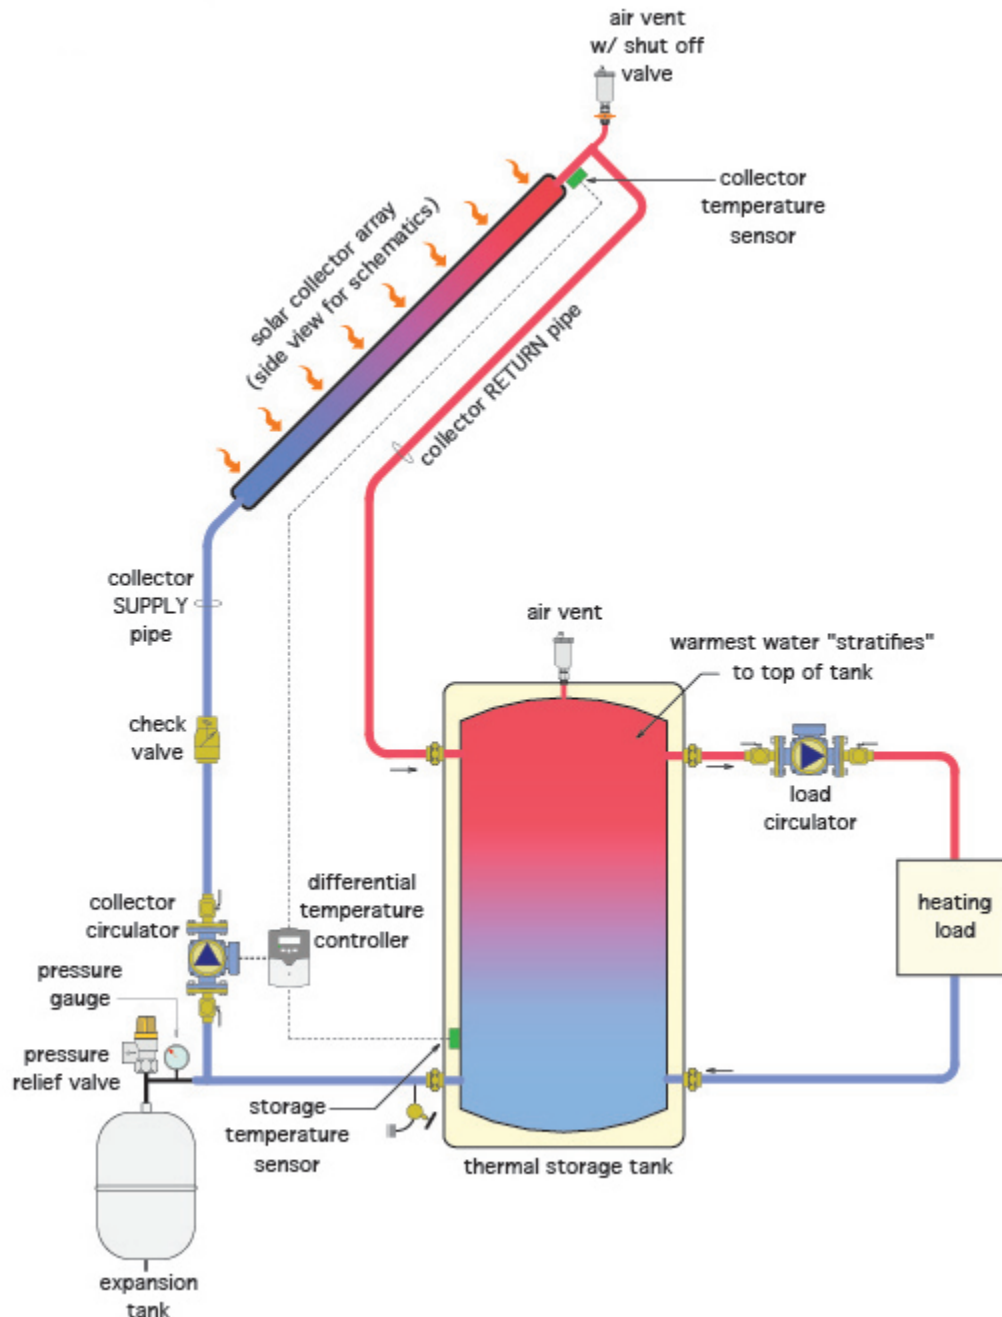

Figure 1 A basic closed active solar thermal system
- Figure 1 Passive building heating © Caleffi Hydronic Solutions (<https://www.caleffi.com/usa/en-us>). Used with permission.
There are many different ways to combine solar thermal collectors with system hardware to provide options for space heating as well as for domestic hot water. In some cases, both loads can be supplied from a single system. Figure 1 below shows probably the simplest active solar thermal system.